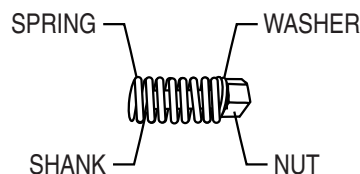

Figure 2.
8. Place one of the washers (with the large hole-7/16" inside diameter for NS and 17/32" inside diameter for FNS) over the shank of the brass nut. Place one of the springs over the shank of the brass nut so that the washer with the large hole is captured between the end of the spring and the head of the brass nut. See Figure 2.